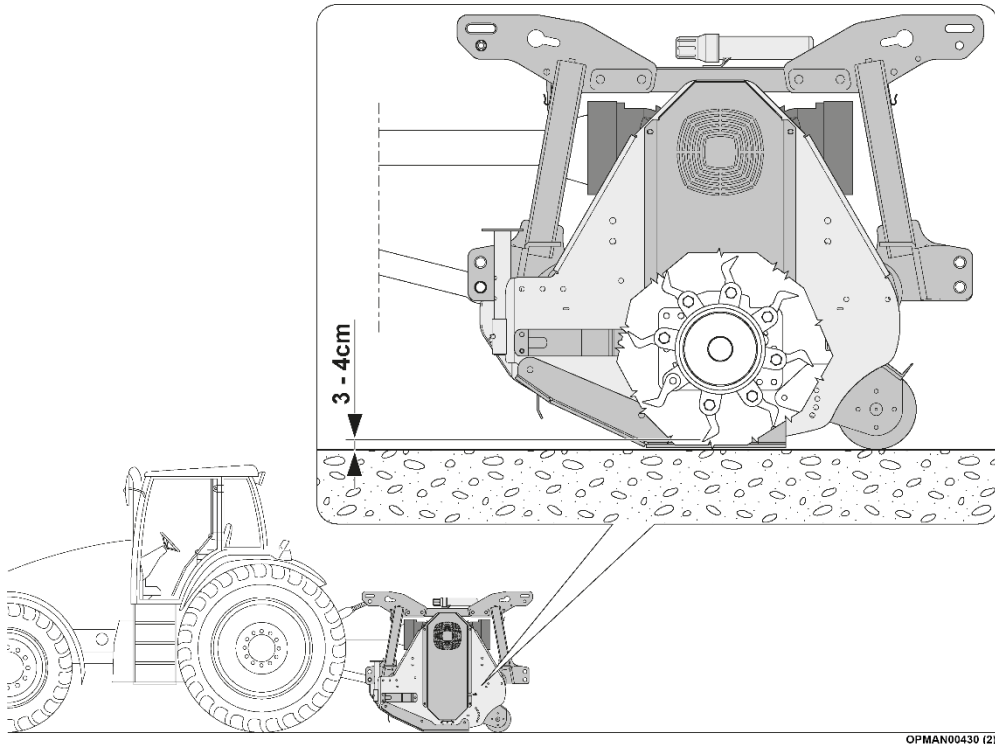

Figure 13
- Adjust the working height so that the flails are at about 3 - 4 cm from the ground (Figure 13).